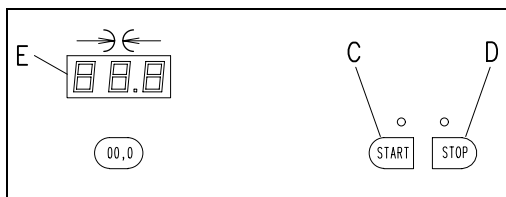

Fig.6
- Press the STOP button **D**. **Fig.6**
- Press the START button **C**. **Fig.6**